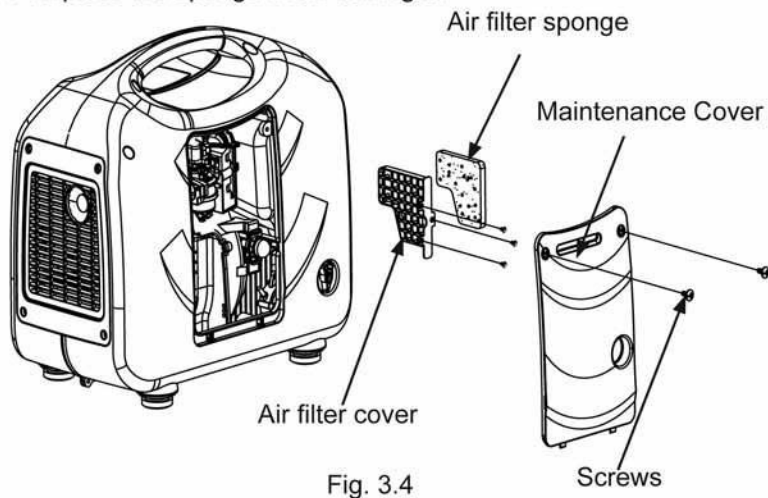

Fig. 3.4
1. Loosen the cover screws, nuts and remove the maintenance cover. Remove the air filter cover and the air filter sponge (Refer to Fig. 3.4)